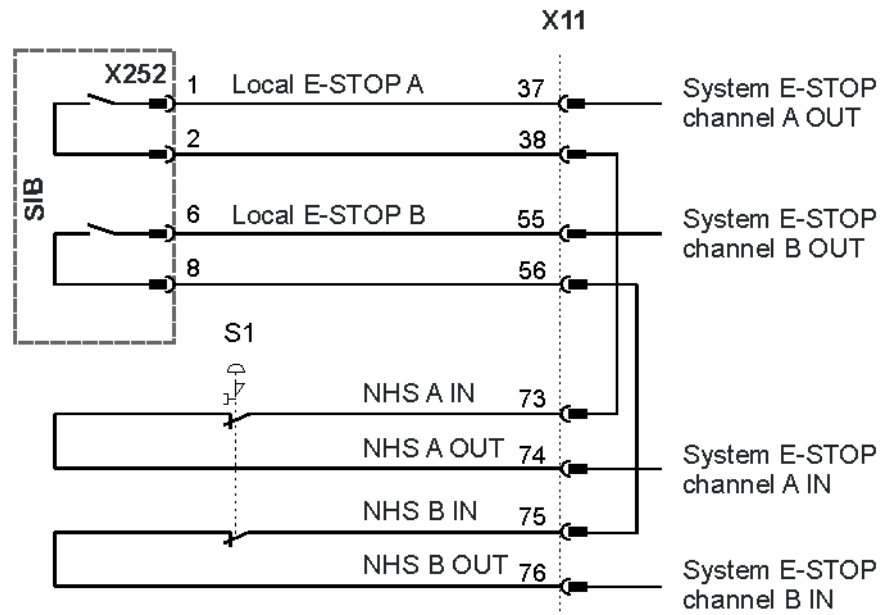

Fig. 4-9: EMERGENCY STOP device, series connection
**Circuit example, series connection** The figure (>>> Fig. 4-9 ) shows a circuit example of the EMERGENCY STOP device connected in series.